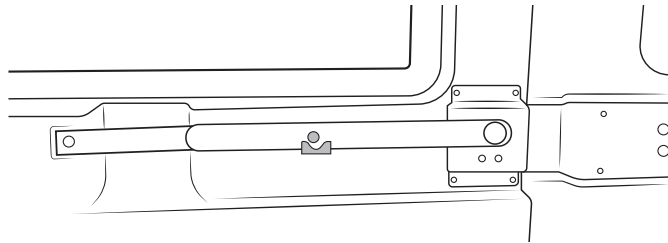

Figure 7 - LIOND rear or side emergency door handle (inside view)
- Pull the handle up and push the door outward (**Figure 7**).